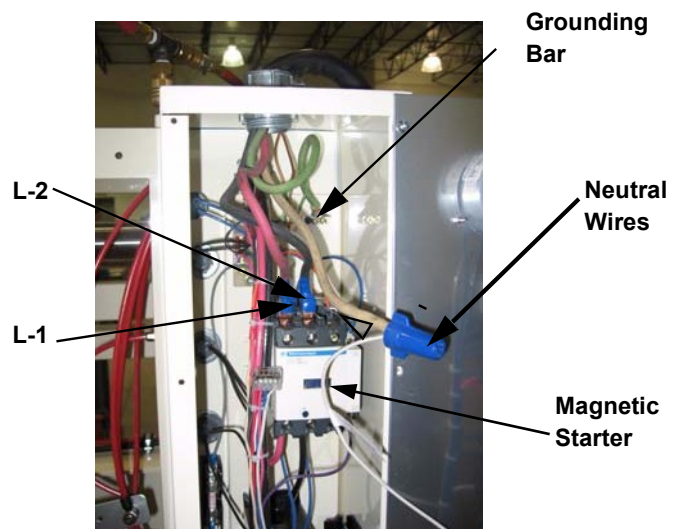

Figure 6: Starter
2. Connect the ground wire from the service to the grounding bar inside the control panel. See Fig. 6.
Connect the neutral wire from the service to the wire labeled “neutral.” See Fig. 6.